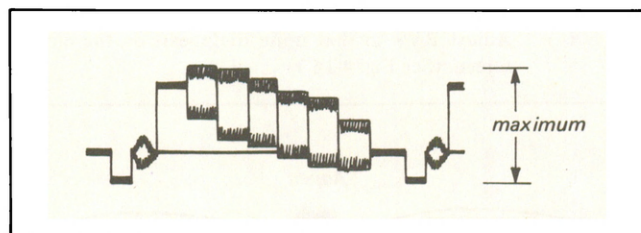

Fig. 4-19. Carrier waveform phase adjustment
- (1) Supply the color-bar signal and set up the E-E mode.
- (2) Connect the oscilloscope to pin 8 of IC2.
- (3) Adjust VL1 for maximum waveform. (See Fig. 4-19.)